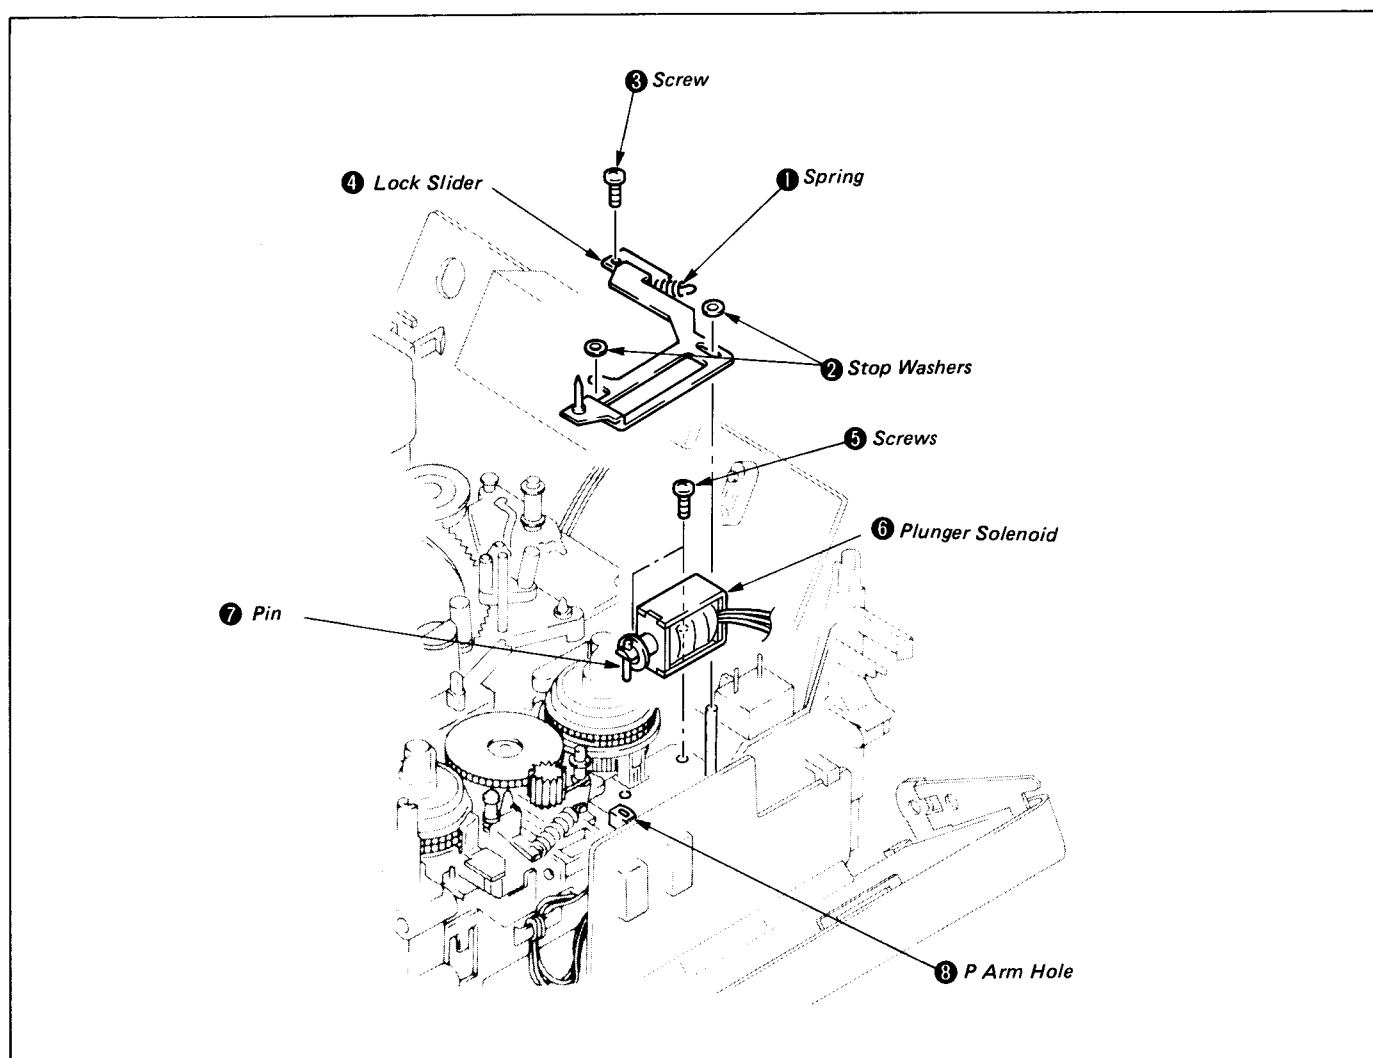

Fig. 1-39
(Be careful not to inflict scars on the T reel table by a screwdriver. Do not touch the table.) (See Fig. 1-39.)
- 1) Reinsert the pin ⑦ of the plunger solenoid in the P arm hole ⑧ and tighten two screws ⑤. Be careful not to inflict scars on the T reel table by a screwdriver or touch it.)
- 2) Remount the lock slider ④ and tighten the screw ③.
- 3) Refit the two stop washers ②.
- 4) Refit the spring ①. (See Fig. 1-39.)